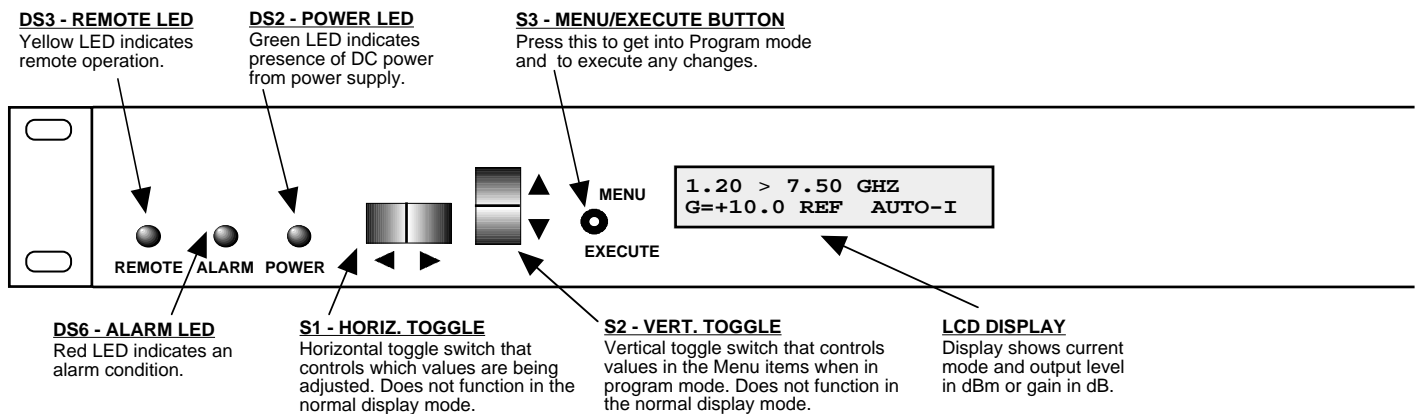

FIGURE 2.2 3115-72 Front Panel Controls and Indicators
Figure 2.2 shows the front panel controls and indicators.
5. Be sure DS2 (green, DC Power) is on and DS6 (red, Alarm) is off (Figure 2.2).
Alarm indications appear on the LEDs (see Figure 2.2).